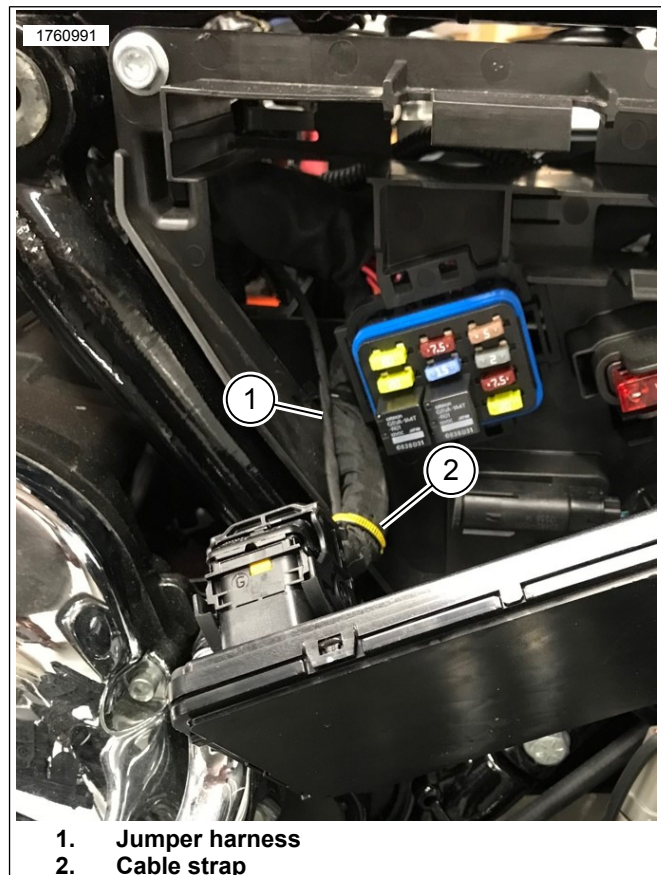

Figure 3. Jumper Harness BCM Connector
- a. See Figure 3. Using cable strap (2) secure jumper harness (1) to main harness.